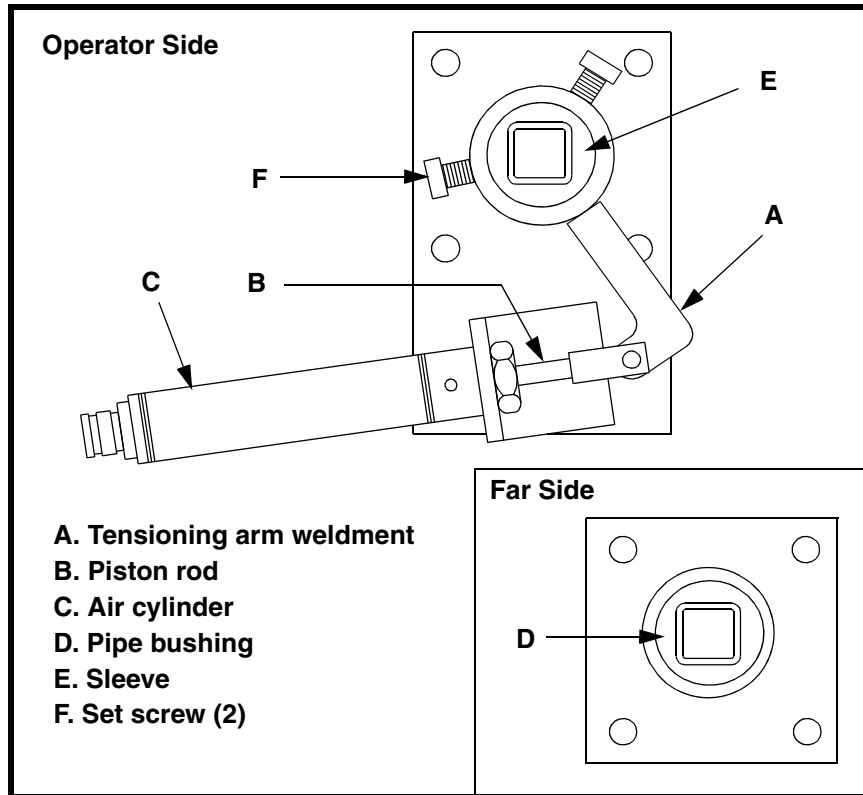

Figure 5. Air Tensioner Installation
1. Push down on tensioning arm weldment (A, Figure 5) until piston rod (B) is all the way inside air cylinder (C).
2. Insert belt cleaner assembly into pipe bushing (D) in far side mounting plate, then into sleeve (E) in operator side mounting plate.
4. While holding piston rod (B, Figure 5) inside air cylinder (C), grasp belt cleaner mainframe and turn it until blades are touching conveyor belt.
5. Tighten two set screws (F) in tensioning arm weldment (A).